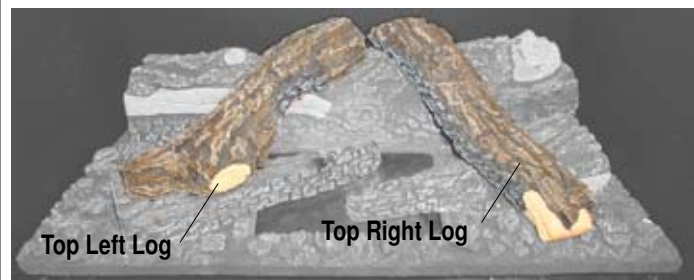

Figure 29e. Top left and right log placement.
4. Place the top left and right logs as shown in figure 29e.